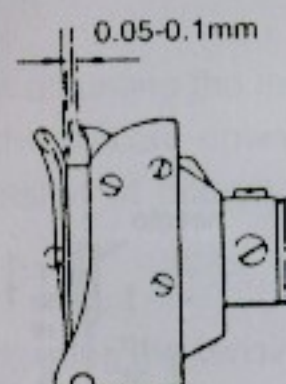

Figure 21
(2) If necessary, loosen the set screw on the rotating shuttle, the point of which should be aligned with the central line of the needle. At the moment, the space between the notch of needle and the rotating shuttle is about 0.05-0.1mm (see Figure 21).